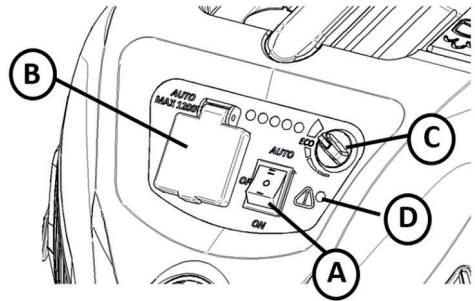

Fig. 10
When the machine is equipped with the semi automatic filter cleaning system, the filter can be cleaned by closing the inlet of the handtube (A). However, first turn the machine to max. power if equipped with power control (see figure 10).